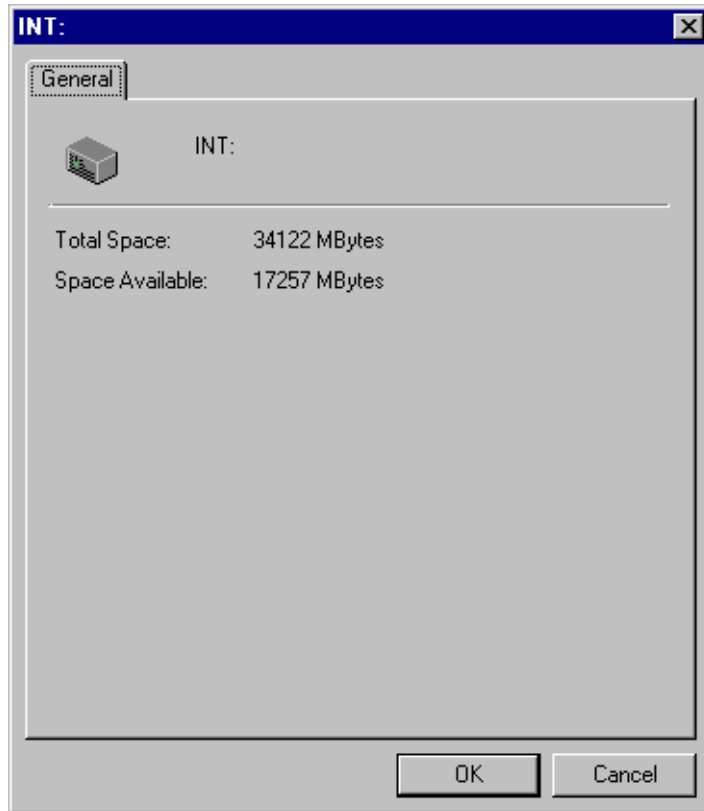

Figure 53. Properties dialog box for volumes
2. Choose **Properties** from the **File** menu or from the shortcut menu with a right-click. You can also click the **Properties** button on the toolbar. The Properties dialog box for volumes appears (see Figure 53).